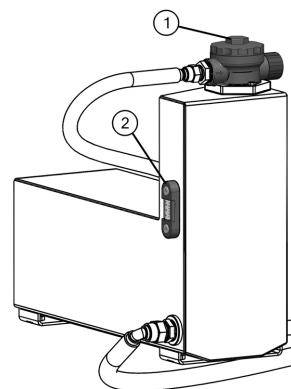

Figure 30 - Hydraulic Tank
3. Clear all debris from around the hydraulic tank (Figure 30).
4. Remove the black screw cap from the top of the filter housing (Figure 30, Item 1).